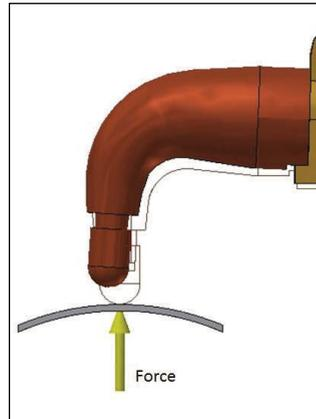

Fig. 1 — As gun force is applied, compensation for arm deflection is required.
- **Gun arm deflection:** The gun arms will bend under force. So, the weld gun must compensate for this bending to prevent panel deformation — Fig. 1.